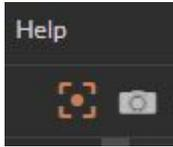

Fig.18
2. Select the laser focus icon.(See Fig.18)